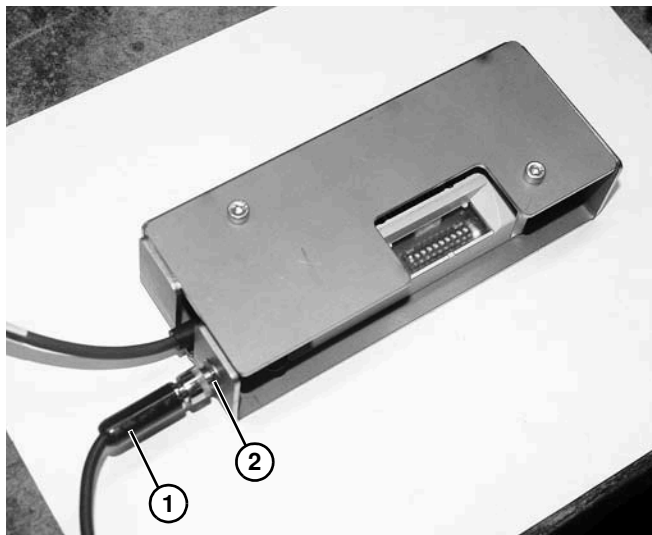

Figure 96
1. Disconnect quick disconnect end (Figure 96, item 1) of power supply from power jack (Figure 96, item 2).